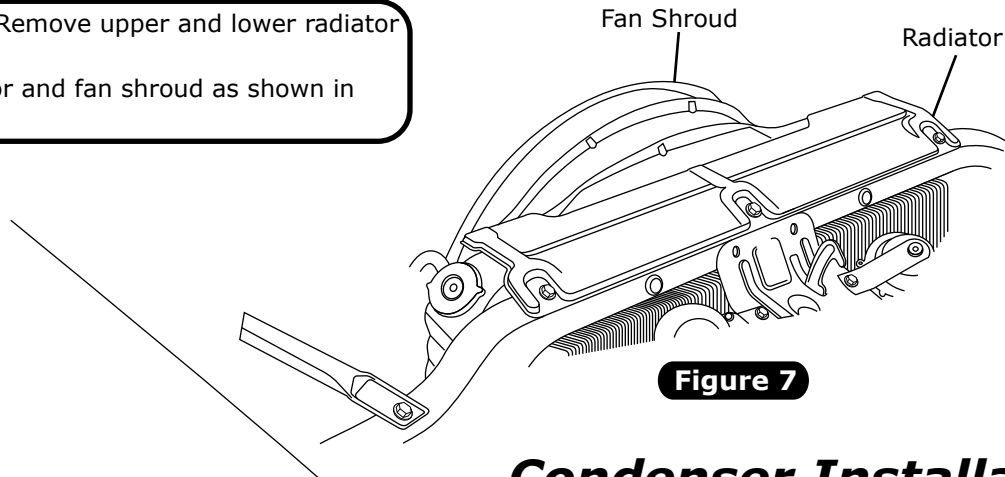

Figure 7
2. Remove radiator and fan shroud as shown in Figure 7, right.